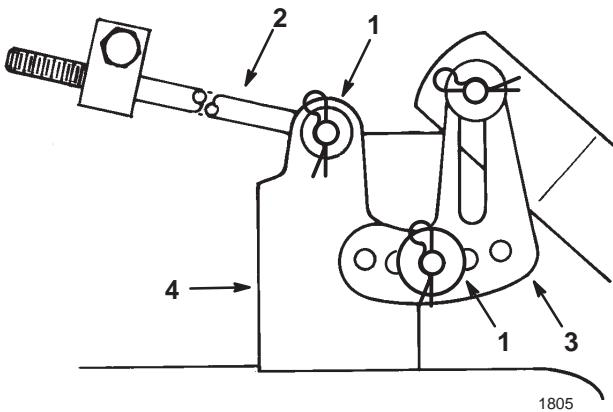

Figure 49
5. Remove the hairpin cotter and washer from the leveling bracket (Fig. 49). To level the blade(s), reposition the leveling bracket in a different hole and install the washer and hairpin cotter. (Fig. 49). A front hole lowers the blade height and a rear hole raises its height. Repeat this procedure on the opposite side of the mower.